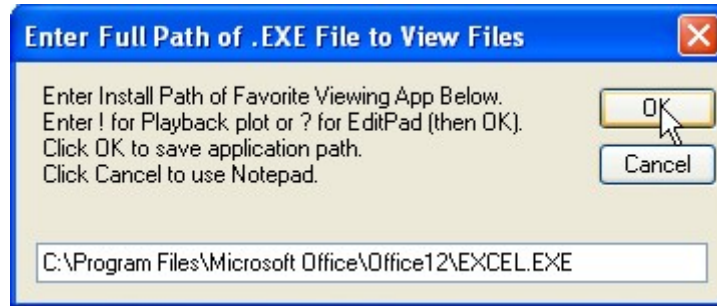

Figure 3.23
4. Enter the directory of the .exe file for the spreadsheet application you wish to use. For example, if you wish to use Microsoft® Excel™, you would not enter: excel.exe. Instead, you would enter something similar to: C:\Program Files\Microsoft Office\Office12\EXCEL.EXE (Figure 3.23). Check your computer's directory to find the exact file path.